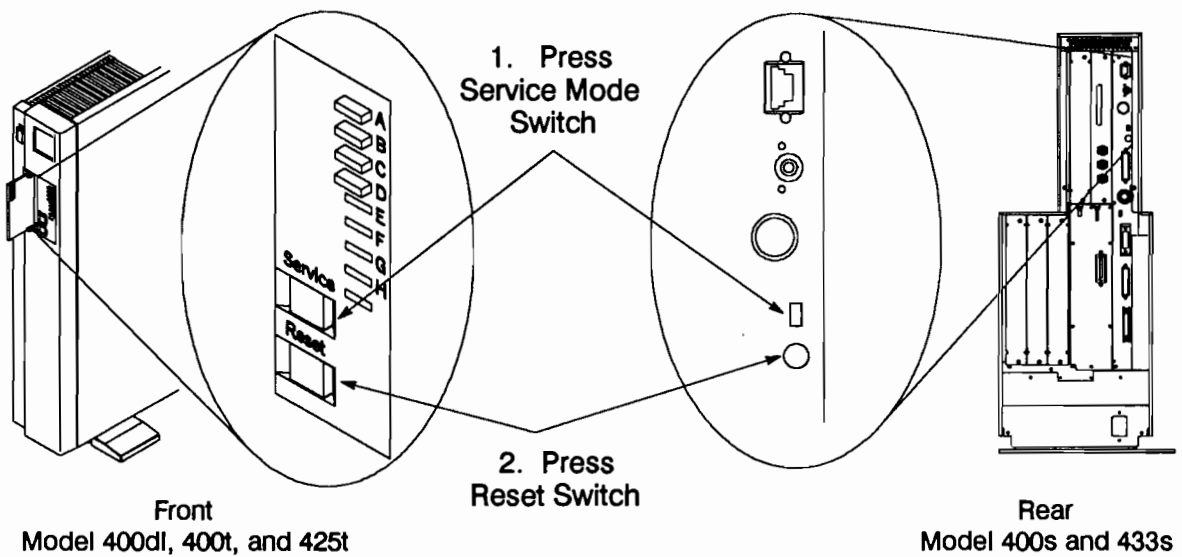

Figure 3-2. Starting a Workstation in Service Mode
2. Before the system finishes the self tests, press the Service mode switch to set the system to Service mode (the Service LED on the system's front panel lights). Then press the Reset switch as shown in Figure 3-2. Press the <RETURN> key until the screen displays the Mnemonic Debugger (MD ">" prompt).